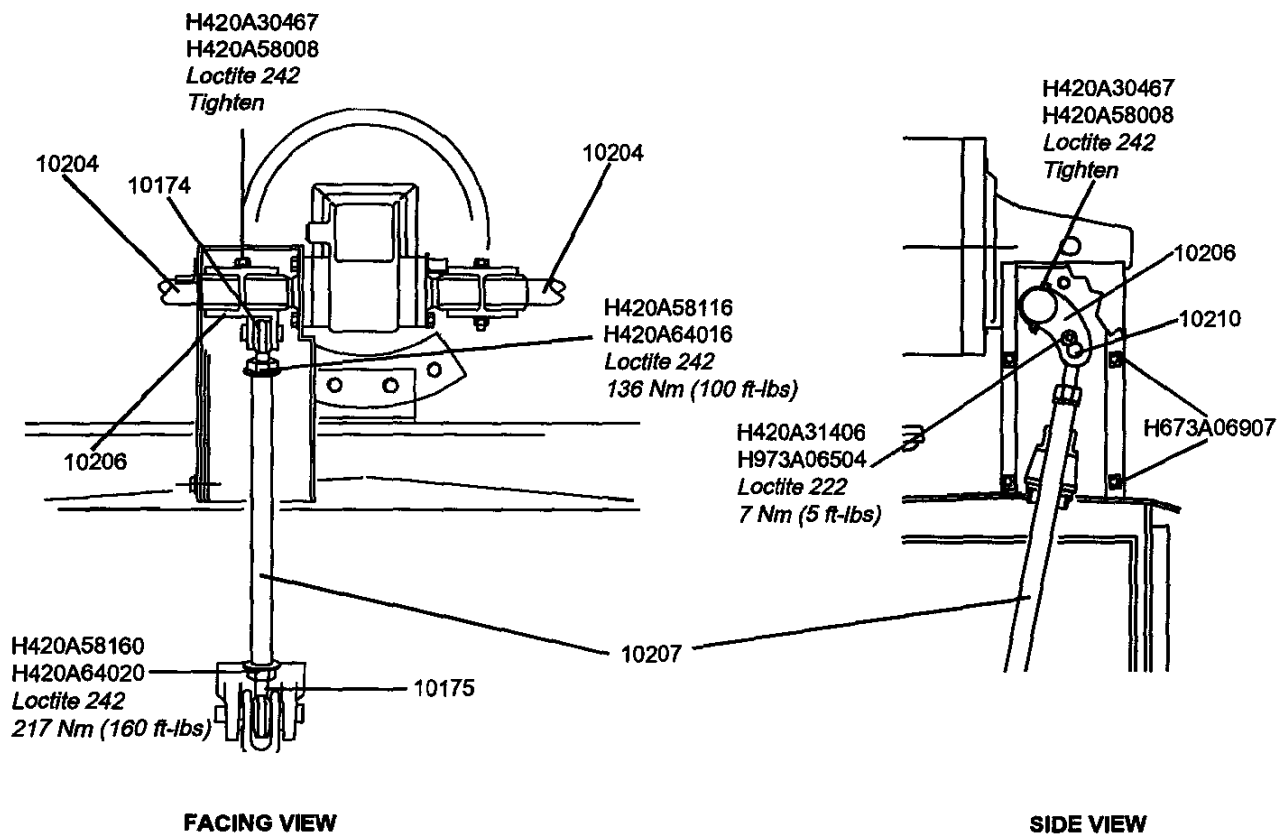

Figure 6
4. Re-install the M8 hex head bolt H420A30467 (Fig. 6) and nut H420A58008 into the crank 10206.
6. Move the mechanism pullrod assembly 10207 into position and slide the crank wrist pin 10210 (Fig. 6) into place.
Notice: *The crank wrist pin usually can be re-installed without requiring any adjustment of the pullrod length. However, because this pin is finely machined for precision fitting, it is sometimes difficult to insert the pin. Therefore a very slight adjustment of the tumbuckling pullrod may be required to align the pin. To adjust the pullrod, loosen the lock nuts H420A58160 (Fig. 6) and H420A58116 and then turn the pullrod slightly (on the order of a half turn) until the pin fits. Apply Loctite 242 to the lock nuts and torque lock nut H420A58160 to 217 Nm (160 ft-lbs); torque lock nut H420A58116 to 136 Nm (100 ft-lbs). If the pin alignment is off significantly, (more than 1 mm) the interrupters may not be fully opened or properly synchronized.*
7. Re-install the M6 hex head bolt H420A31406 (Fig. 6) and washer H973A06504 which hold the crank wrist pin 10210 in place. Apply Loctite 222 to the threads of the M6 bolt and torque to 7 Nm (5 ft-lbs).
Important: *With the 145 PM circuit breaker, the mechanism cannot be jacked closed. The interrupters must be isolated from the mechanism by removing the crank wrist pin 10210 (Fig. 6).*
3. Remove the M6 hex head bolt H420A31406 (Fig. 6) and washer H973A06504 which holds the crank wrist pin 10210 in place.
8. Move the mechanism pullrod assembly 10207 (Fig. 6) into position and slide the crank wrist pin 10210 into place.
may be required to align the pin. To adjust the pullrod, loosen the lock nuts H420A58160 (Fig. 6) and H420A58116 and then turn the pullrod slightly (on the order of a half turn) until the pin fits. Apply Loctite 242 to the lock nuts and torque lock nut H420A58160 to 217 Nm (160 ft-lbs); torque lock nut H420A58116 to 136 Nm (100 ft-lbs). If the pin alignment is off significantly, (more than 1 mm) the interrupters may not be fully opened or properly synchronized.
9. Re-install the M6 hex head bolt H420A31406 (Fig. 6) and washer H973A06504 which hold the crank wrist pin 10210 in place. Apply Loctite 222 and torque to 7 Nm (5 ft-lbs).